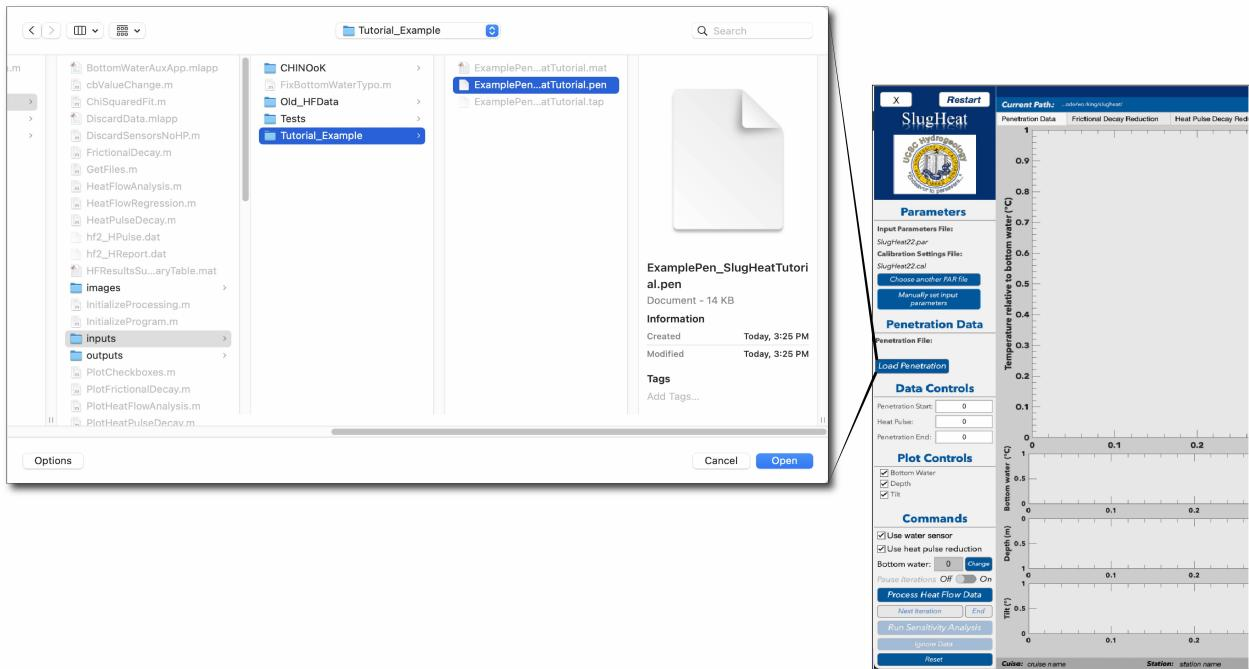

Figure 4: *SlugHeat* example pop-up window to select a PEN file that will be used to load the penetration into the program.
Though PEN, TAP, and MAT files are all created in *SlugPen*, the minimum requirement for processing data in *SlugHeat* is a PEN file, so *SlugHeat* will ask you to select a PEN file that defines the penetration. Corresponding TAP and MAT files for that penetration will also be loaded in automatically if they exist in the same directory. If they do not exist, *SlugHeat* can still process temperature data recorded by a PEN file alone. In this example, penetration `ExamplePen_SlugHeatTutorial` is loaded using PEN, TAP, and MAT files (See Fig 4). Steps are as follows:
2. Select a **PEN file** in the pop-up window (Fig 4), which defines data from a single penetration.